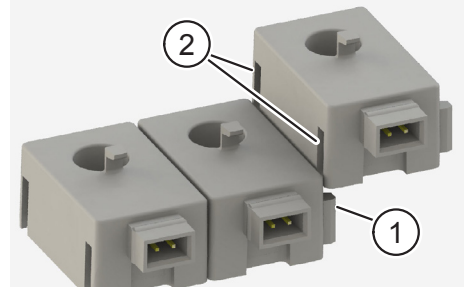

Fig. 2: Linking current sensors
- ▶ Attach the current sensors to each other by sliding the grooves (pos. 2 in Fig. 2) on the lefthand side of one sensor into the locking mechanism (pos. 1 in Fig. 2) on the righthand side of the other sensor.